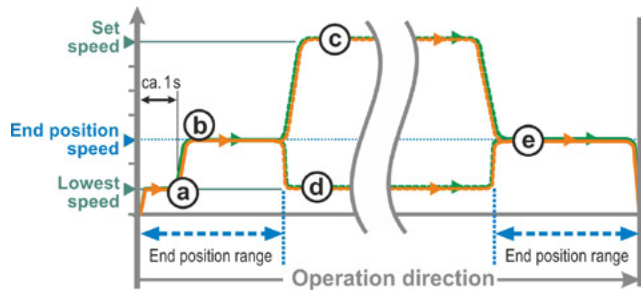

Fig. 1: End position speed 'Normal'
- from the end position at the lowest speed, approx. 1 sec. (fig. 1: curve **a**), to change to the end position speed, refer to **b**;